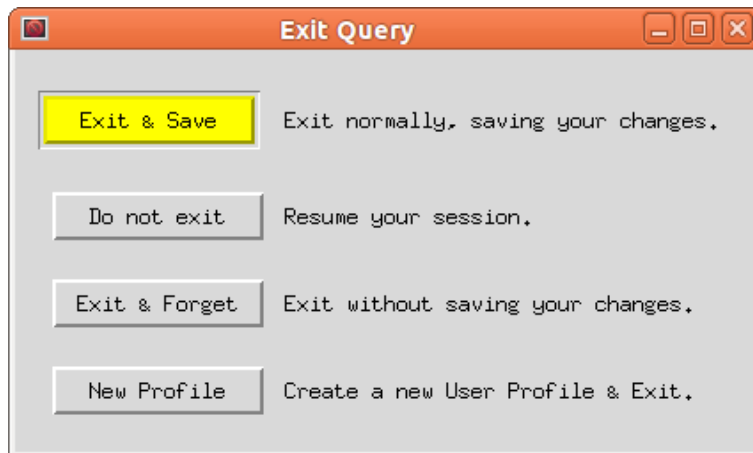

Figure 6.6: Here you decide how to save the settings from this session.
LCMgui usually has an “Exit LCMgui” or an “Abort LCMgui” button. When you click this, you are usually given the choice of four buttons (Fig. 6.6):
- When you exit from this first 3T session, click “New Profile” in Fig. 6.6, enter “3T” in Fig. 7.11, and then click “Save”.
- When you exit from LCMgui sessions after the first 3T session, you can exit normally by simply clicking “Exit & Save” in Fig. 6.6.
Be sure and exit normally from LCMgui, with the “Exit & Save” button in Fig. 6.6, so that your license information is saved.